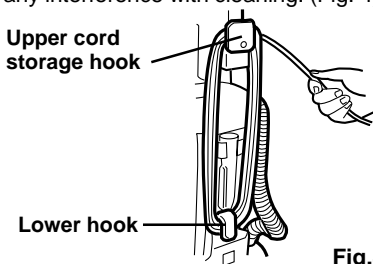

Fig.4
- 2 Wrap excess cord around the cord storage hooks to prevent dragging and any interference with cleaning. (Fig. 4)